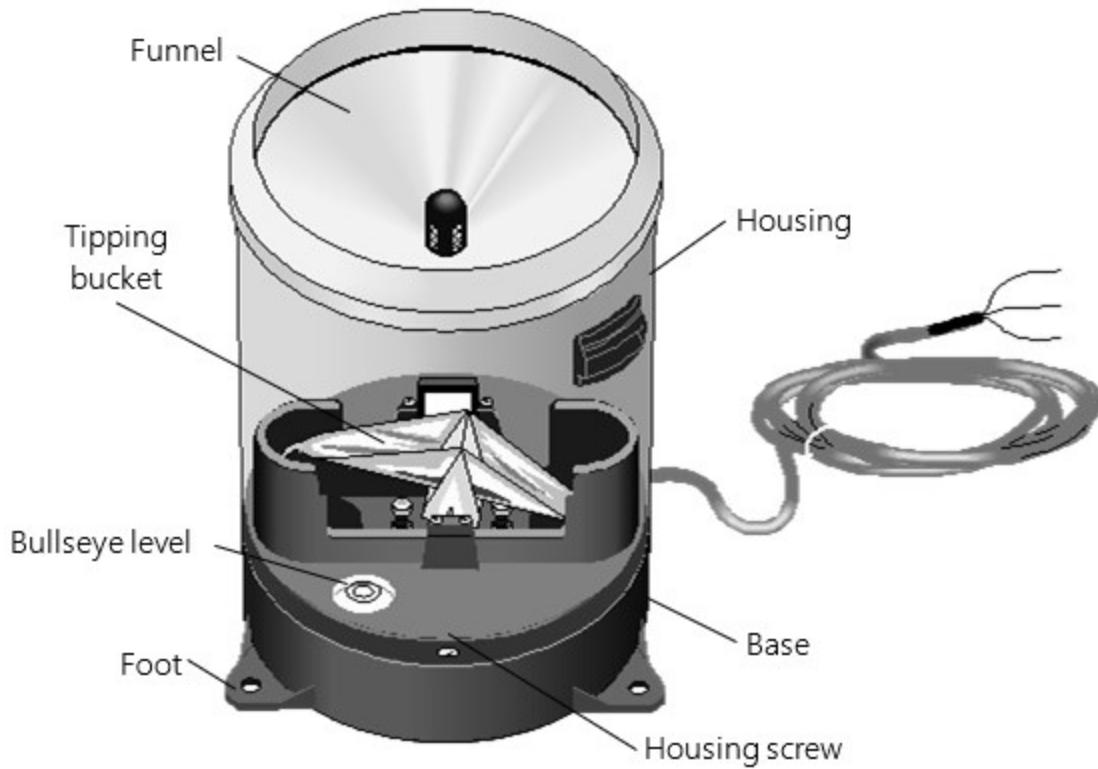
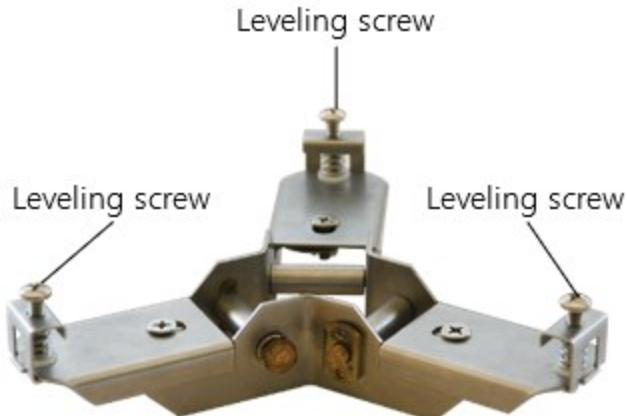

Figure 7-5. Transparent view of the TB4 (CS700 looks similar)
Figure 7-6. CM240 mounting bracket
1. Remove the housing assembly from the base by loosening the three housing screws and lifting the housing upward (Figure 7-5 [p. 15]).
2. Remove the leveling screws from the CM240 (Figure 7-6 [p. 15]).
3. Place the tipping bucket on the CM240 and line up the holes in the tipping bucket feet with the holes for the CM240 leveling screws (Figure 7-5 [p. 15] and Figure 7-6 [p. 15]).
6. Adjust the three leveling screws on the CM240 bracket to level the gage (Figure 7-6 [p. 15]). A bullseye level is mounted on the rain gage base to facilitate leveling (Figure 7-5 [p. 15]).